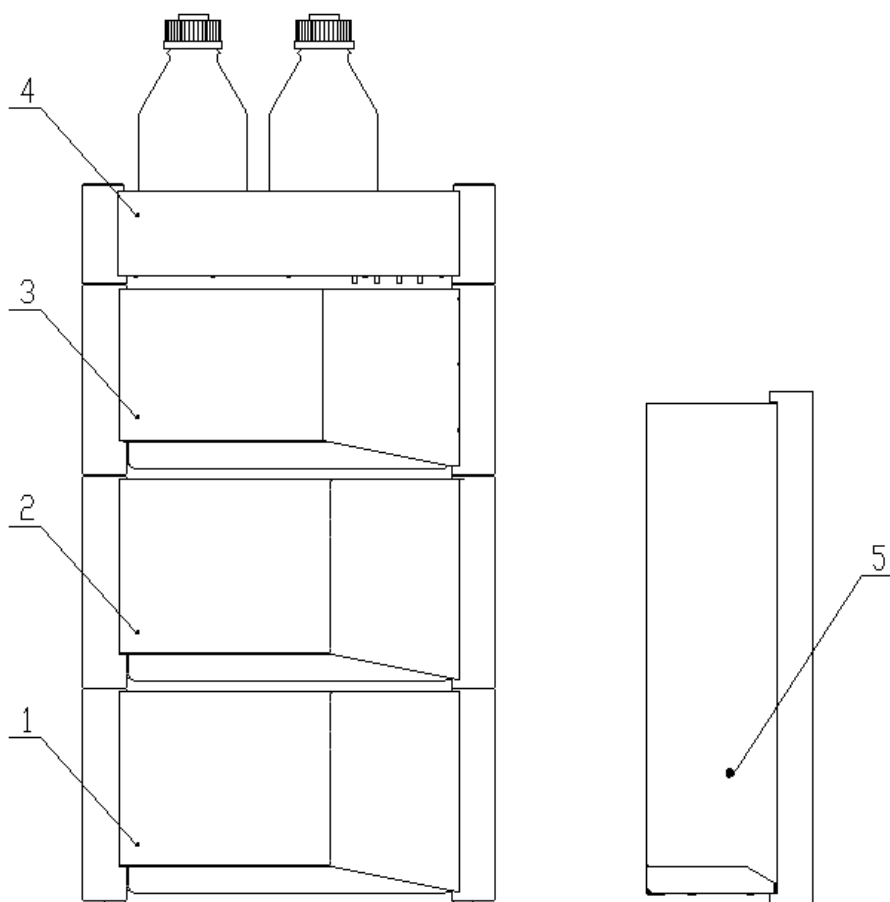

Fig. 2-1 Recommended Stack Configuration for EClassical 3200L
In order to guarantee the best working state of the instrument, it is recommended that the instruments should be stacked as shown in Fig 2-1.
- 1) Lay the detector as Fig. 2-1 and 2-2.